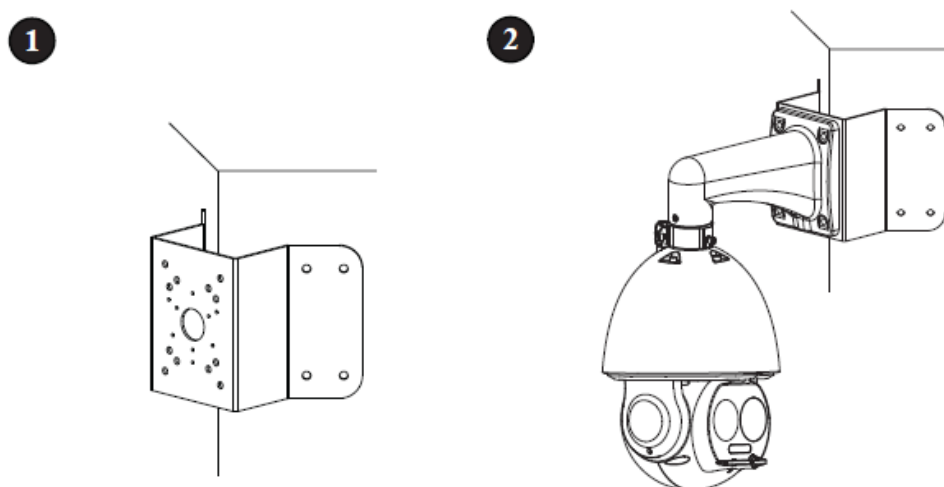

Figure 3-5
1. Dig holes on the mounting wall, insert expansion bolts, use nut to fix and paste glass cement to make it sealed and waterproof, which is shown in Figure 3-5 ①.
5. Check if the speed dome is firmly fixed and then device installation is completed, which is shown in Figure 3-5 ②.